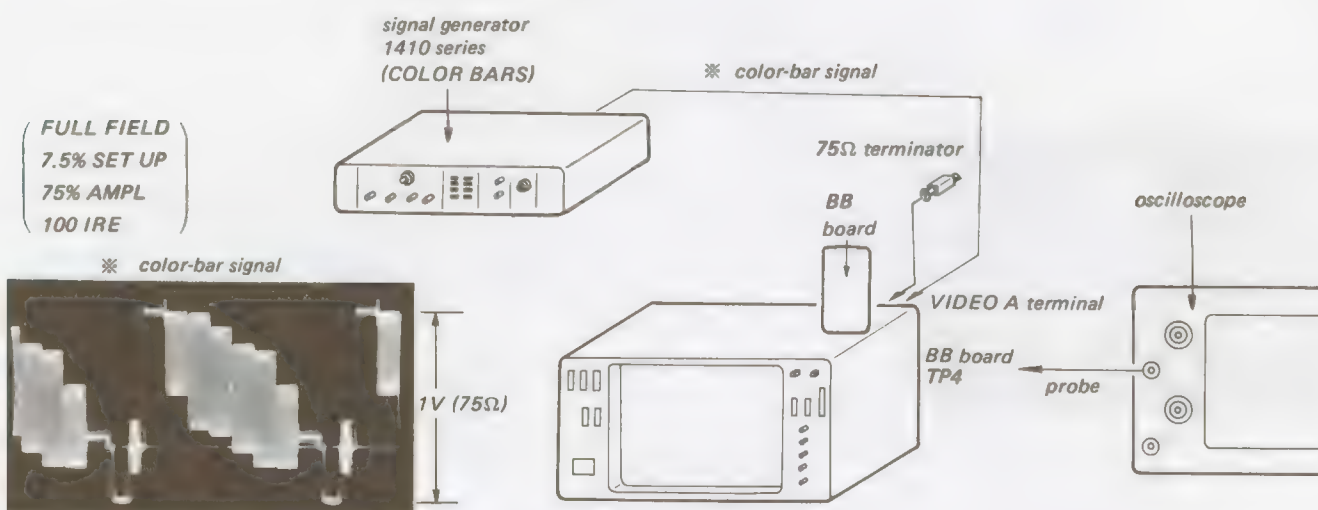

Fig. 5-56.
7. Complete the connections as shown in Fig. 5-56.